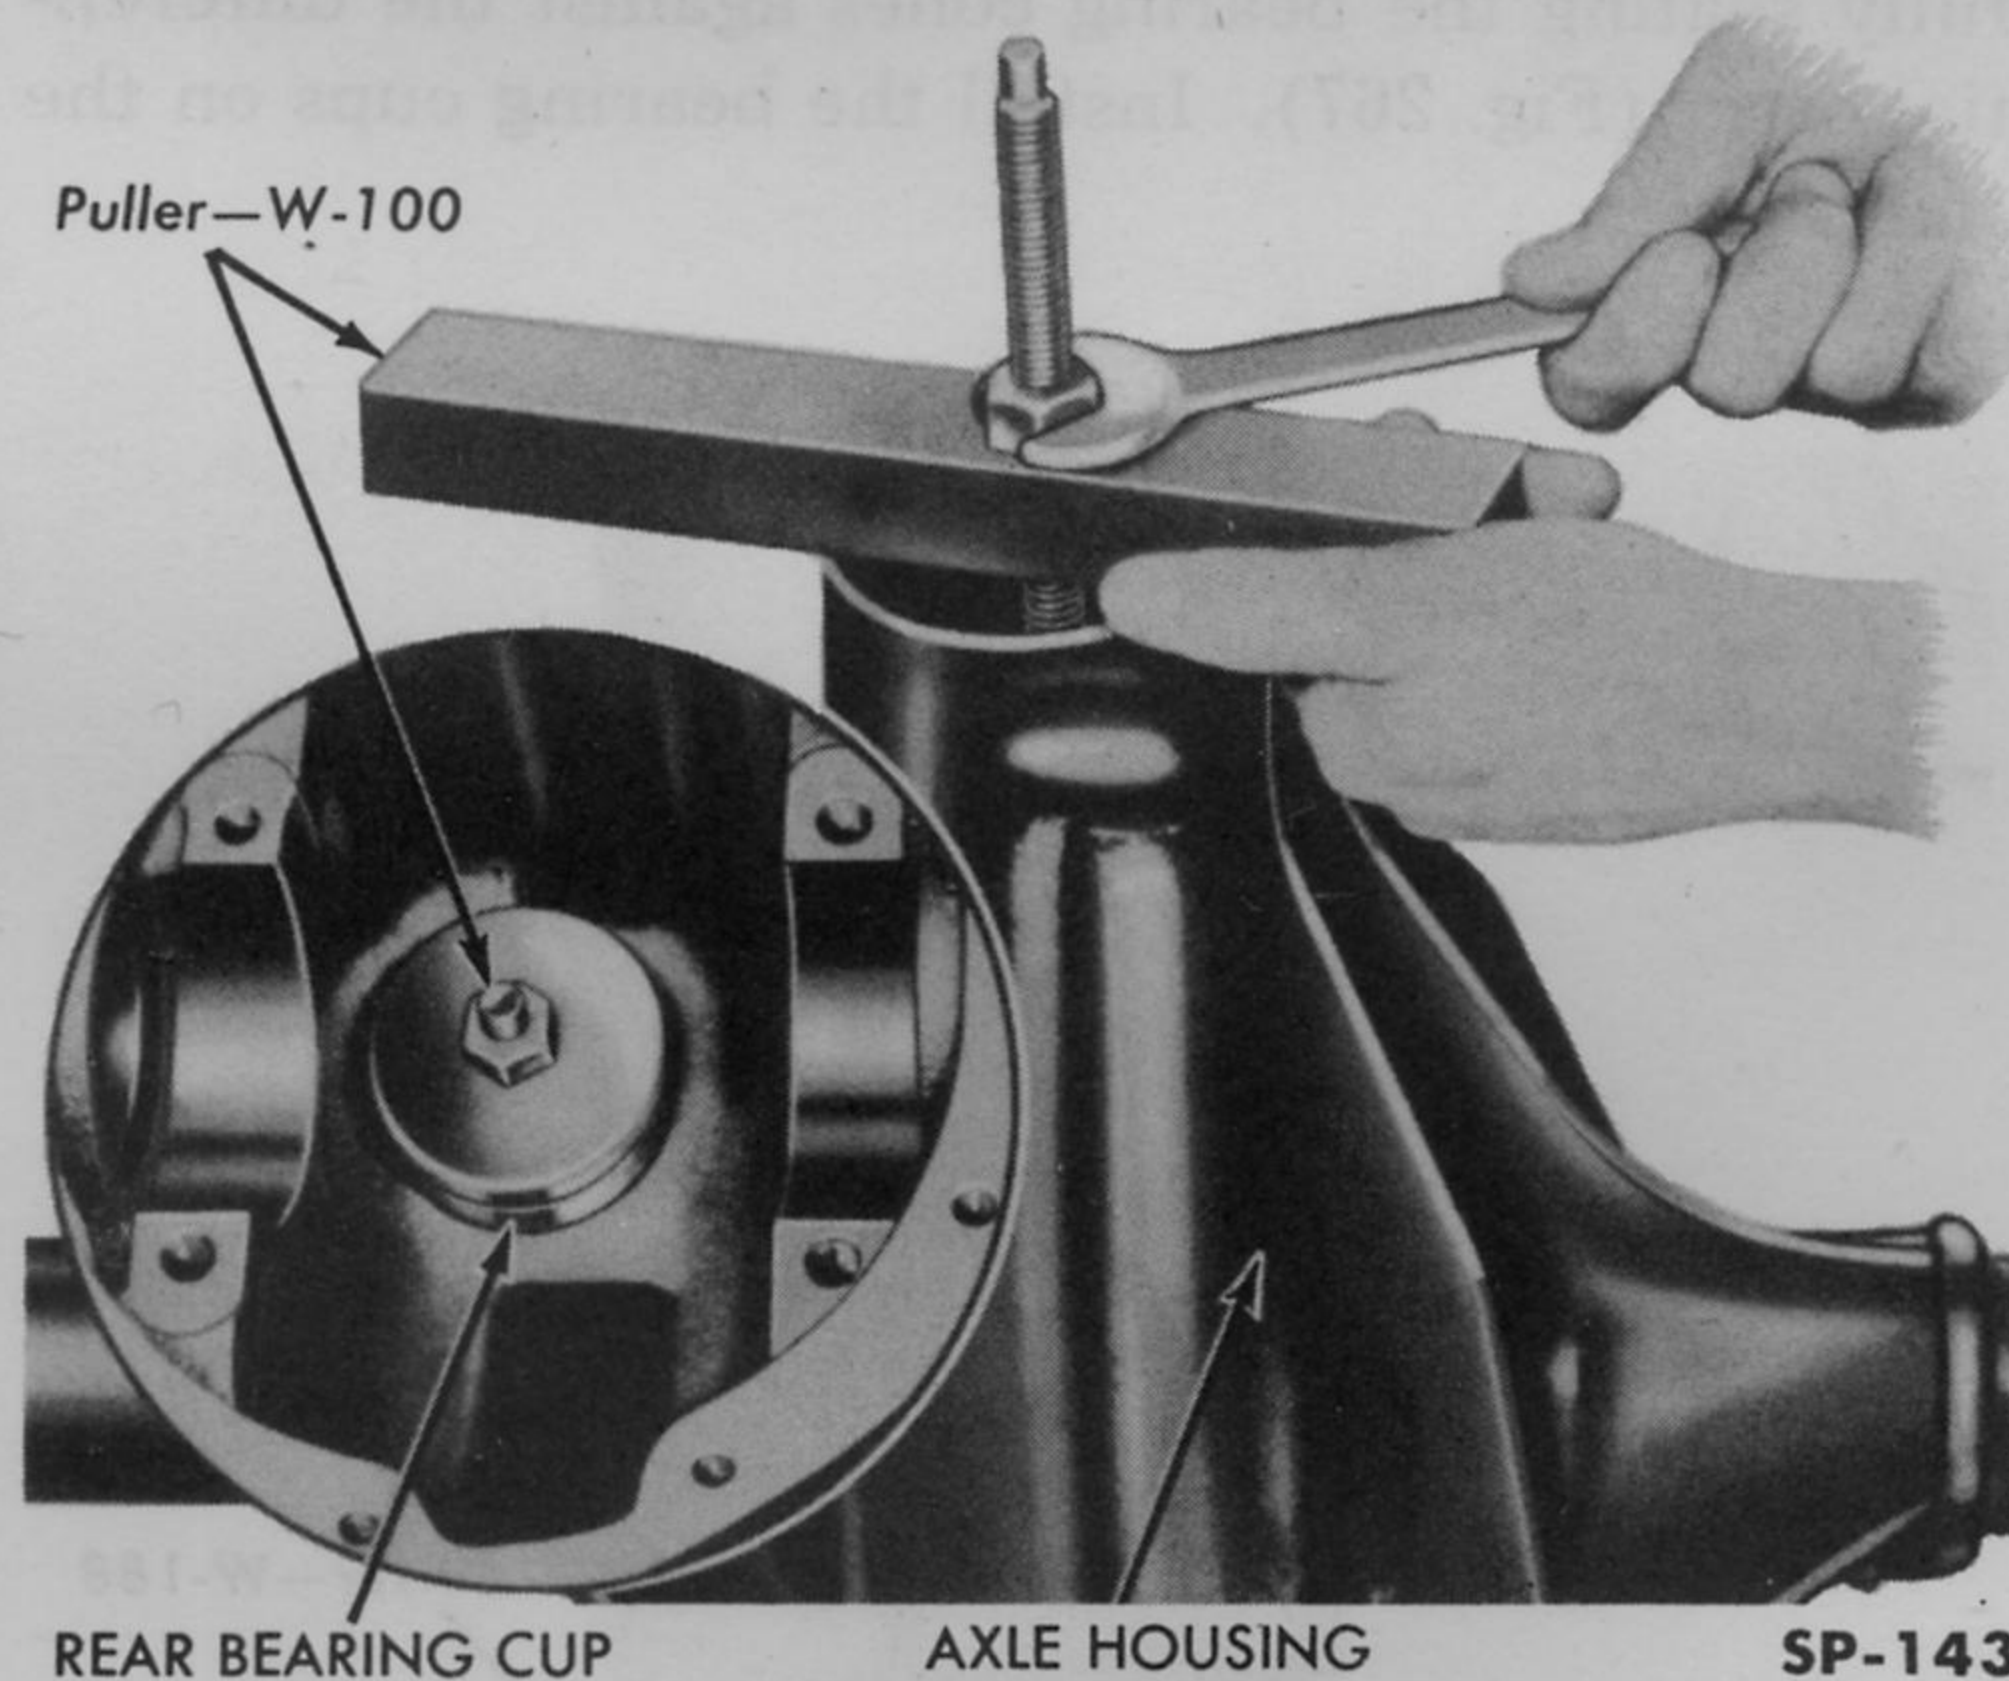

Fig. 271—Installing Pinion Rear Bearing Cup
3. Install the shim pack and bearing cup in the rear bearing seat of the housing, using Puller W-100 (part of Gauge Set W-99) inverted (Fig. 271).